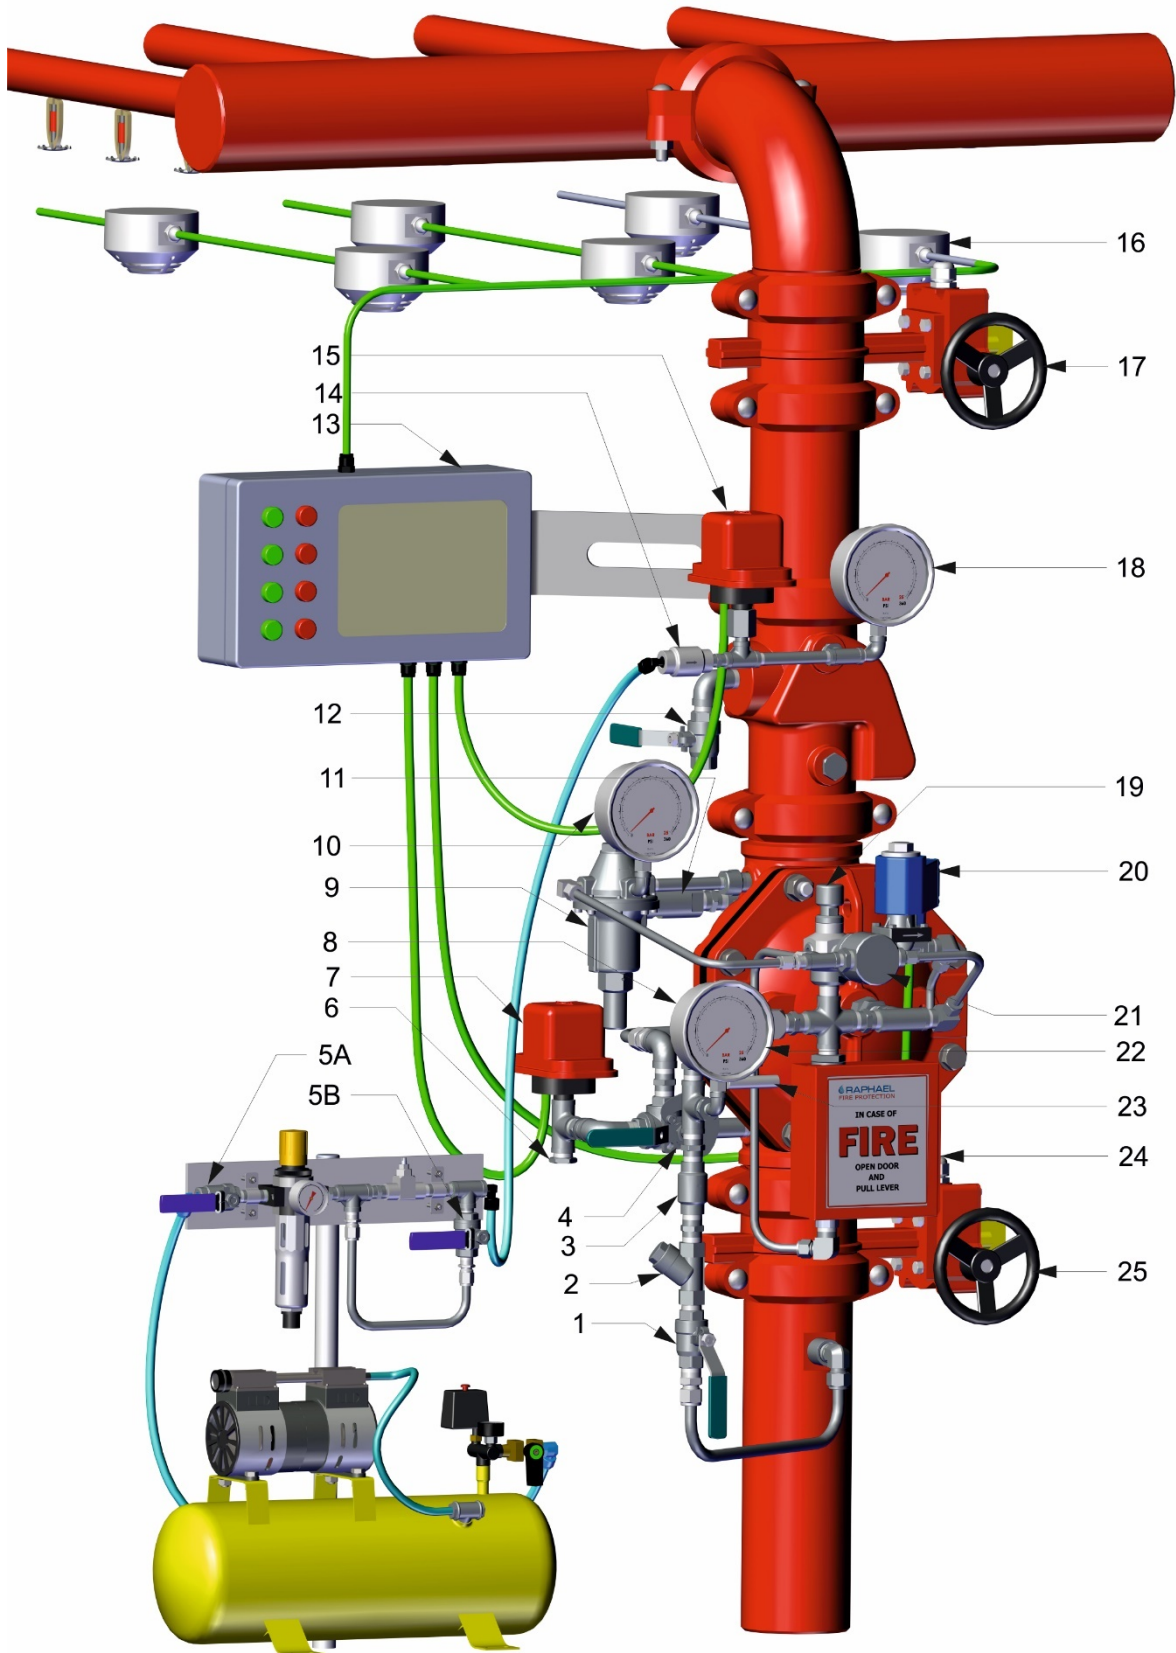

Figure 2
Series of smoke/Heat detectors are installed over the protected area and connected electrically to the main FP control board (13 figure 2).
Installation (reference - figure 2)
9. All connections to water supply, alarms etc. should be done in accordance with figure 2:
(Reference - figure 2)
(Reference drawing - figure 2)
PRPV – Pressure Reducing Pilot Valve setting (9 fig 2):
After a real fire situation, make sure that the SOV is closed by de-energizing its coil (through the FP main control board). (Reference drawing - figure 2)